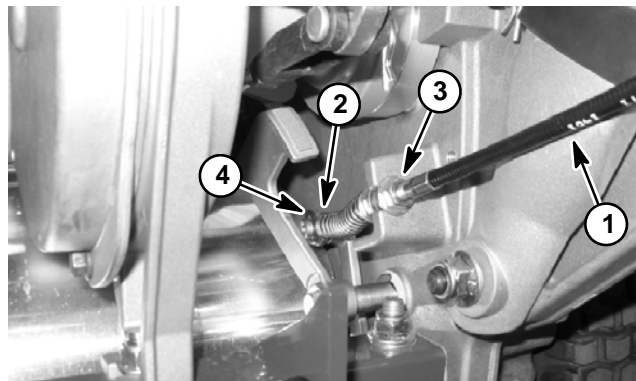

Figure 6
2. Remove brake cable from the brake lever shaft on the drum drive housing (Fig. 6):
3. Route brake cable to the drum drive housing and secure brake cable to the brake lever shaft on the drum drive housing (Fig. 6):